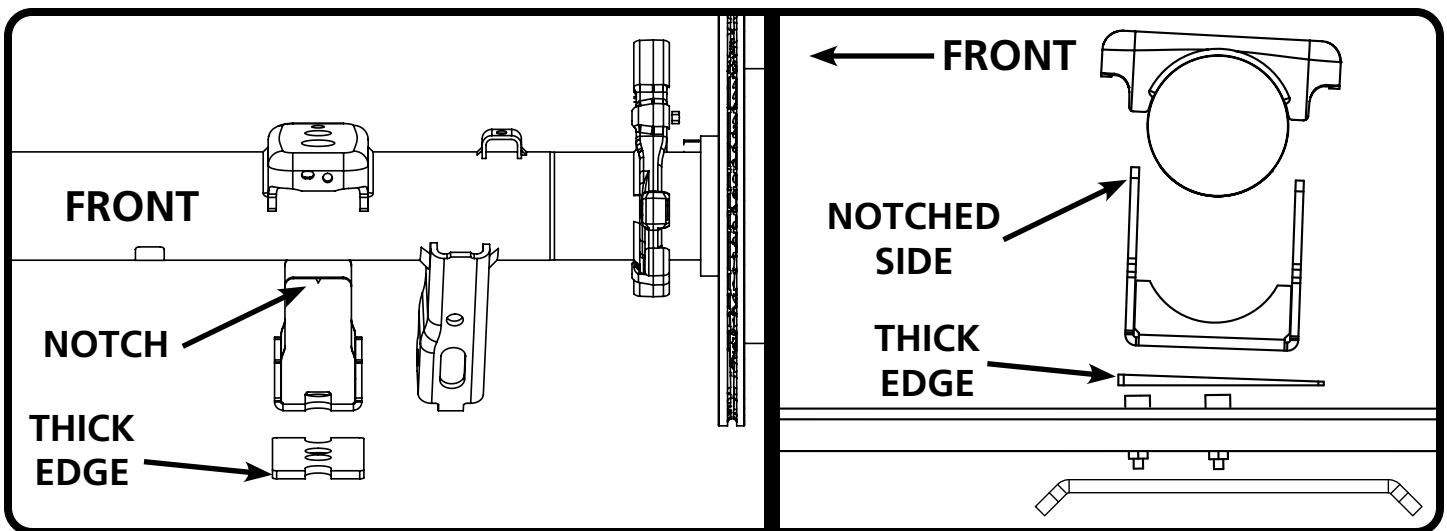

Figure 17a
- 21.** Position the wedge shim & flip bracket on the locating pins using Figures 17a & 17b below as a guide. The thick end of the wedge and the notch on the flip bracket will go to the front of the truck.